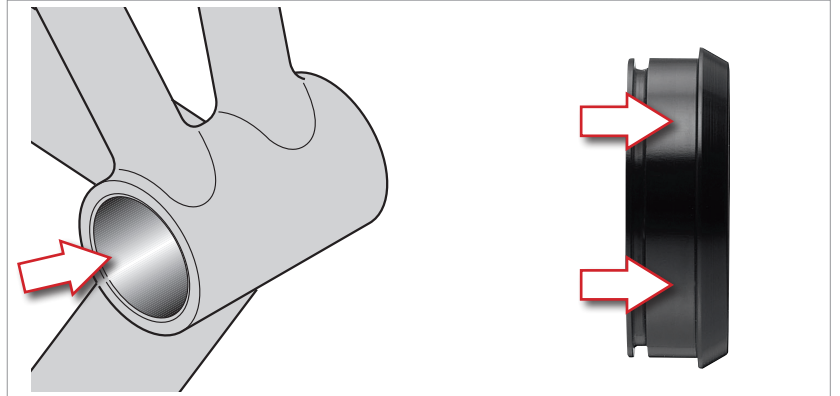

Fig.1
- Thoroughly clean the inner surfaces of the bottom bracket shell which will mate with the bottom bracket cups (Fig. 1) with isopropyl alcohol and a cloth. Leave to dry completely.
- Thoroughly clean the outer surfaces of the bottom bracket cups (Fig. 1) with isopropyl alcohol and a cloth, and leave to dry. Do not touch the cleaned surfaces.